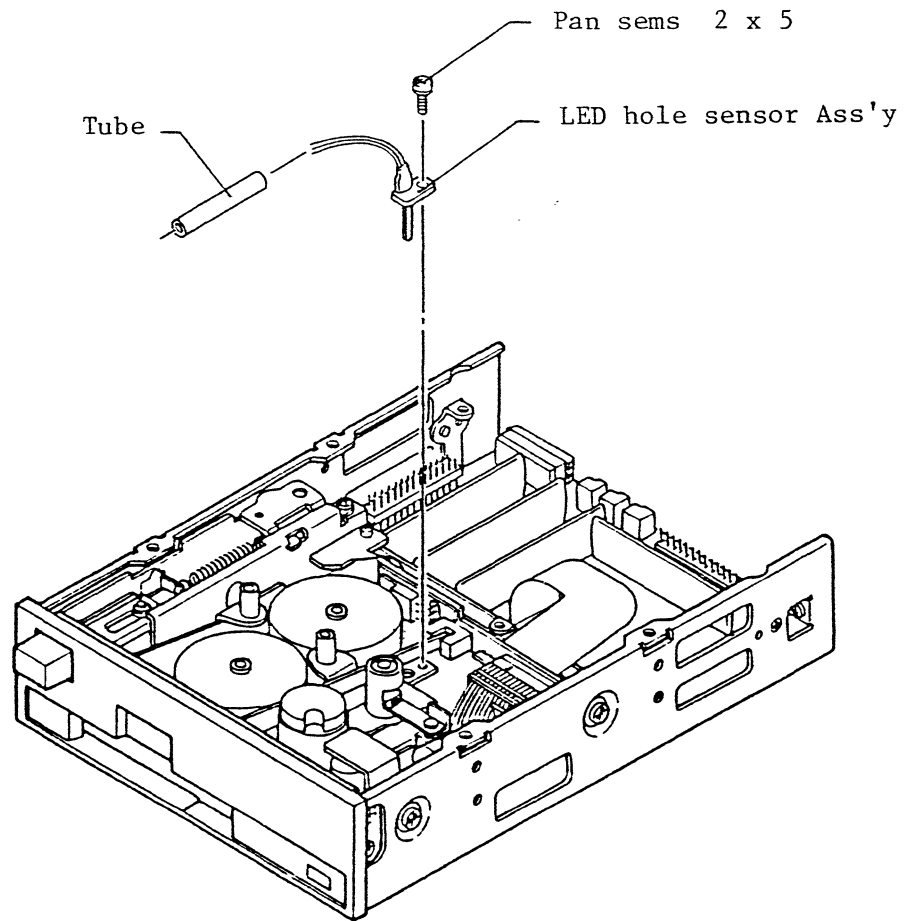

Fig.441 Replacement of LED hole sensor Ass'y
- (g) Remove the mounting screws of the LED hole sensor Ass'y, and detach the LED hole sensor Ass'y. At this time, remove the tube from the cables (Fig. 441).